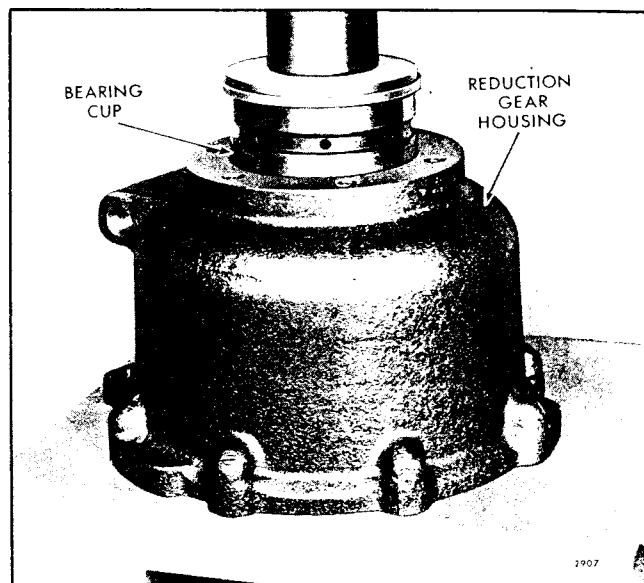

Fig. 95 - Installing Reduction Gear Drive Shaft Bearing Cup in Gear Housing
- d. Support the forward face of the reduction gear housing on the bed of an arbor press. Place a steel plate on top of the bearing cup and under the ram of the press as shown in Fig. 95. Then press the bearing cup straight into the gear housing until it seats on the shoulder in the housing.